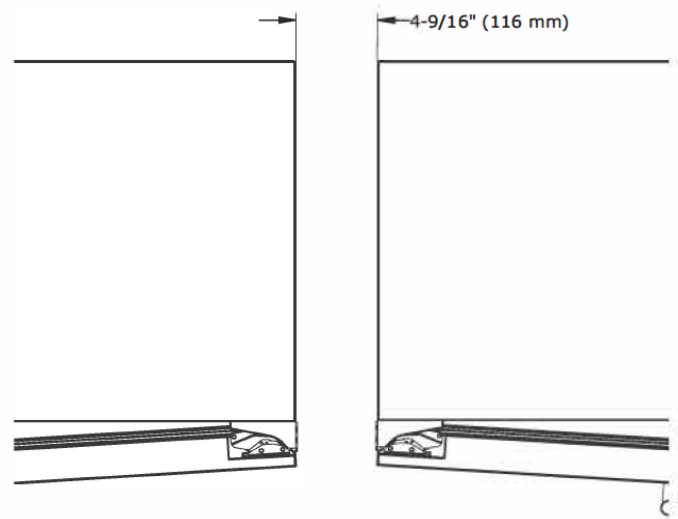

Figure 13
2. Remove the drawer divider from the drawer and remove the gasket from the drawer front. (See Figure 13). Do this by pulling the gasket out of the channel that holds it to the drawer front. This will expose the clearance holes for mounting the integrated panel. (See Figure 17).